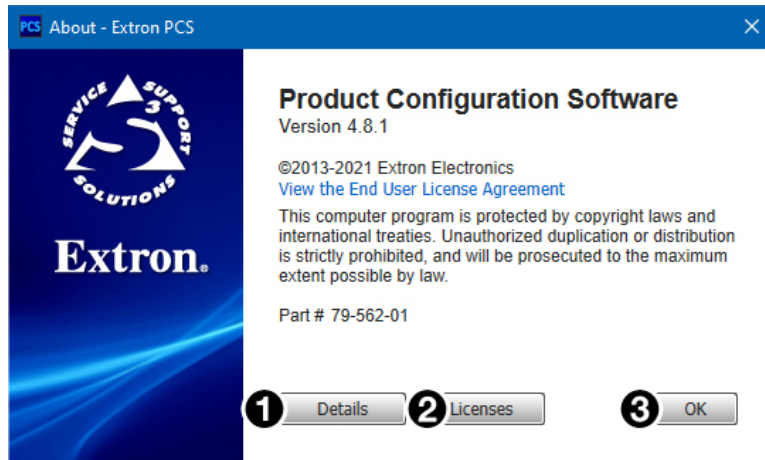

Figure 29. About - Extron PCS Dialog Box
2. Click the **Details** button (see figure 29, ①) for more information.
3. To display details about third-party software packages and associated licensing, click **Licenses** (②).
4. Click the **OK** button (③) to close the dialog box.